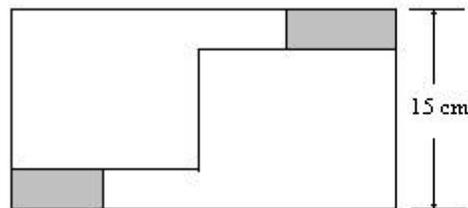
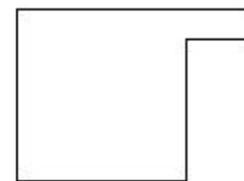

Figure 1
Figure 2
- Cut this piece into two equal parts as shown in *Figure 1* below. Discard the shaded pieces. The goal is to make two approximately square pieces with tabs on them which look like *Figure 2*. These pieces will be the capacitor plates.